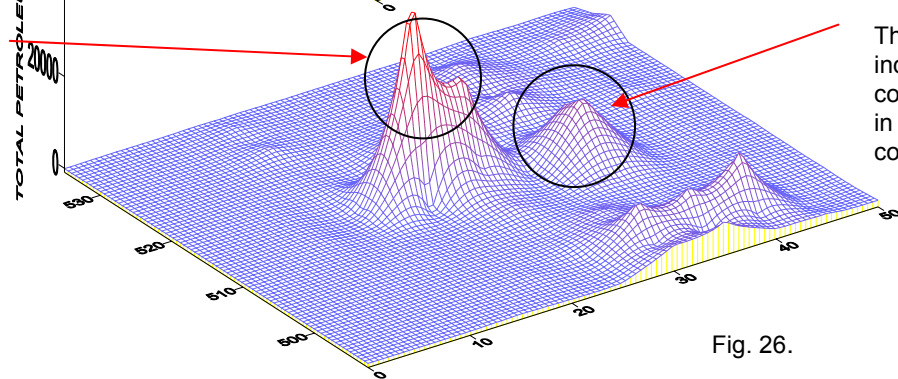

Fig. 26.
**CASE STUDY 1** (Fig.26): The following wire frame maps were obtained from a site at a railway terminal where the hydrocarbon products were transferred from tank wagons into underground storage tanks. The leakage from pipes and badly-protected high volume tanks caused serious LNAPL pollution with a thick layer of kerosene at the water table. The site is underlain by permeable sandstone and alluvial sediments which are very suitable for a Soil Contamination Survey. Some 100 stations were measured in one day.